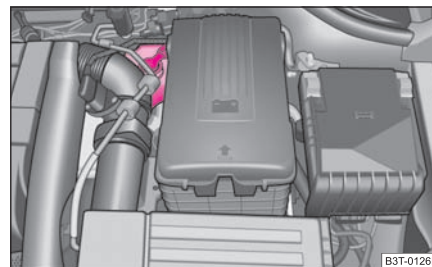

Fig. 190 Engine compartment: Brake fluid reservoir
- Inspect the brake fluid level in the reservoir ⇒ fig. 190. The level must be between the “MIN” and “MAX” markings.